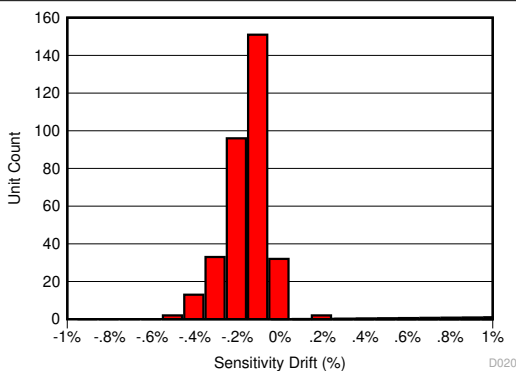
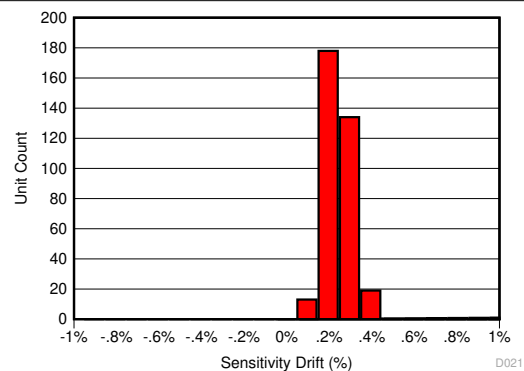
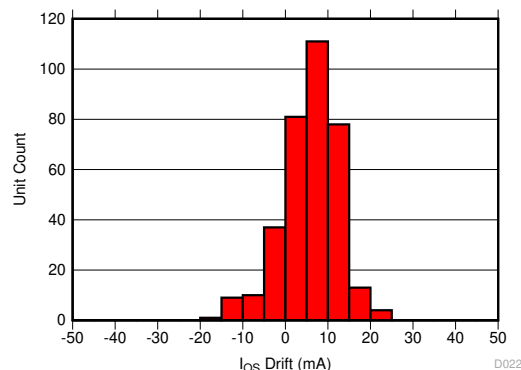

图 9-1. Sensitivity Error After 130°C, 85% RH HAST
图 9-2. Sensitivity Error Drift After AEC-Q100 High Temperature Operating Life Stress Test
图 9-3. Input-Referred Offset Drift After AEC-Q100 High Temperature Operating Life Stress Test
The same compensation techniques utilized in the TMCS1107-Q1 to reduce temperature drift also greatly reduce lifetime drift due to aging, stress, and environmental conditions. Typical magnetic sensors suffer from up to 2% to 3% of sensitivity drift due to aging at high operating temperatures. The TMCS1107-Q1 has greatly improved lifetime drift, as defined in the Electrical Characteristics table for total sensitivity error measured after the worst-case stress test during a three lot AEC-Q100 qualification. All other stress tests prescribed by an AEC-Q100 qualification caused lower than the specified sensitivity error, and were within the bounds specified within the Electrical Characteristics table. 图 9-1 shows the total sensitivity error after the worst case stress test, a Highly Accelerated Stress Test (HAST) at 130°C and 85% relative humidity (RH), while 图 9-2 and 图 9-3 show the sensitivity and offset error drift after a 1000 hour, 125°C high temperature operating life stress test as specified by AEC-Q100. This test mimics typical device lifetime operation, and shows the likely device performance variation due to aging is vastly improved compared to typical magnetic sensors.